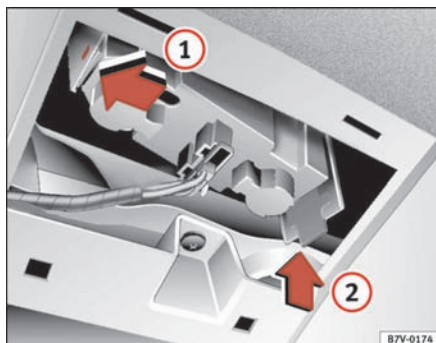

Fig. 168 Lights on tailgate
- Fit the lampholder in the corresponding opening (1) at the front tab and press the lampholder upwards at the back (2), until the elastic tab engages ⇒ fig. 168.